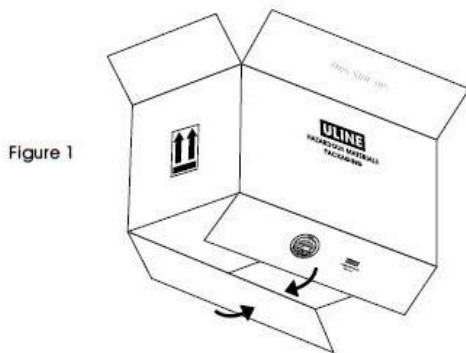

Figure 1
1. Fold flaps on bottom of carton so that they meet. Manufacturer's certification must be visible on the outside of the carton. (See Figure 1)